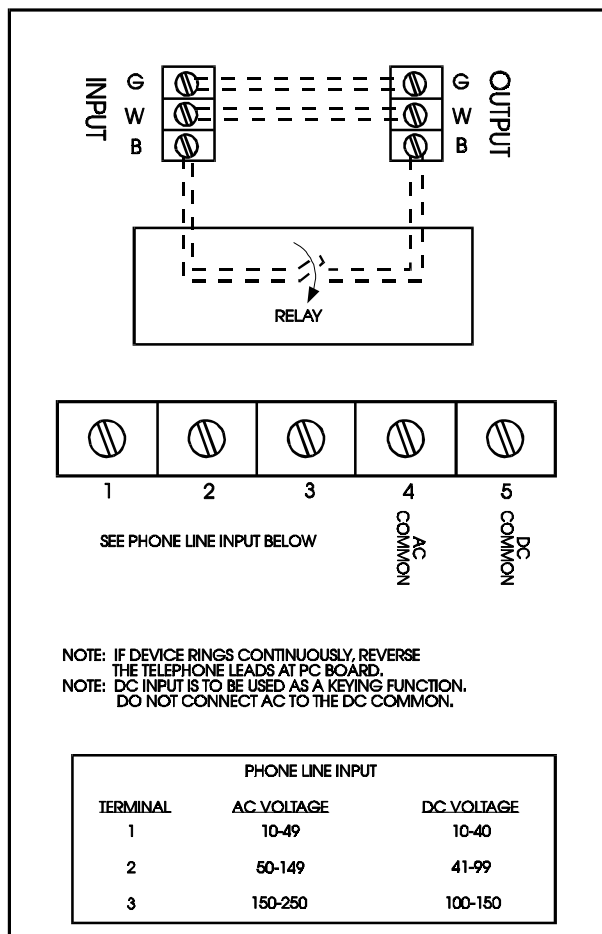

Figure 2. Wiring Diagram
3. Connect telephone leads to terminal screws on PC board (Figure 2).
on the PC board (Figure 2).